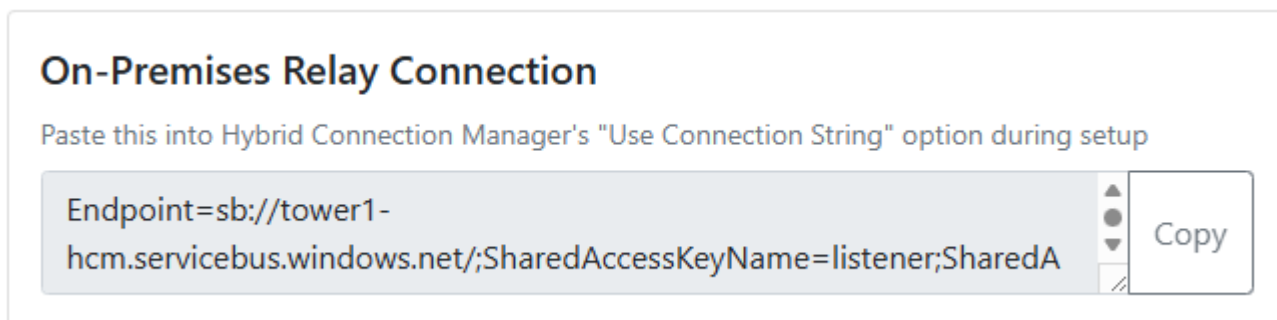

Figure 19: Once CANalitica completes your Hybrid Connection setup, you will be provided a connection string within the Data Connection Page.
Selecting the **Test** action will attempt to reach the data source and inform the user with a message and change in Status (fig. 19 and 20).
1. Click **Map** next to the relevant table on the Project Data Loader page (fig. 19).